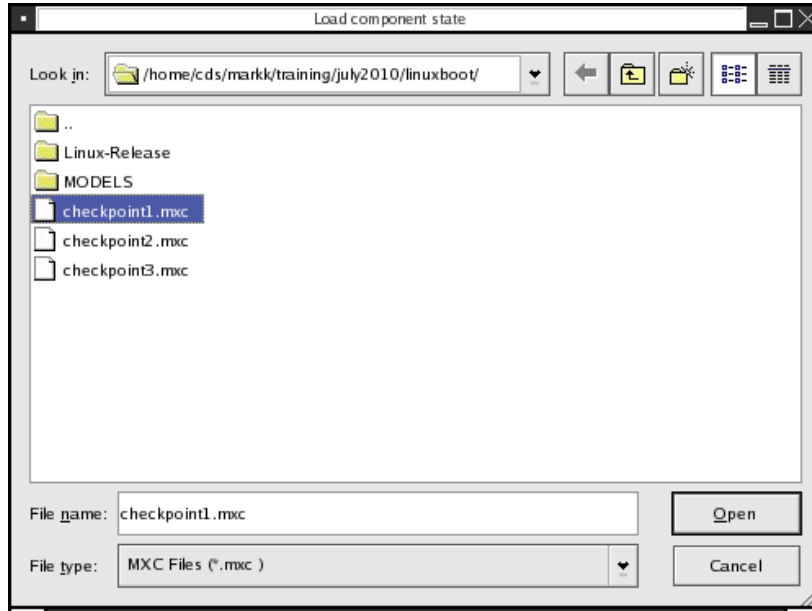

Figure 4-18 Load Component State dialog
3. In the Load component state dialog (Figure 4-18), browse to the checkpoint file you would like to load: